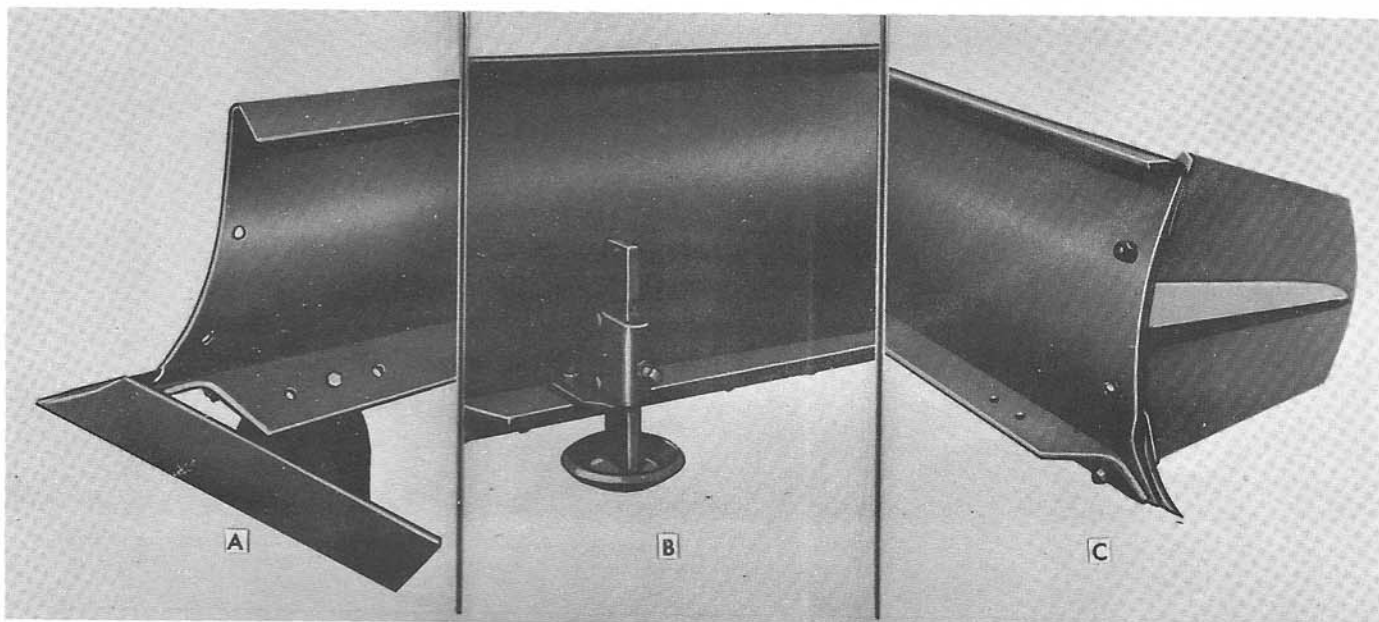

Figure 5
The ditching points (A), Figure 5, are bolted to the blade ends and are useful for cutting and ditching.
The skid shoes (B), Figure 5, are mounted on the rear of the blade to reduce blade wear and control penetration.
The end plates (C), Figure 5, are attached to the blade edges for moving and holding loose material in the blade.